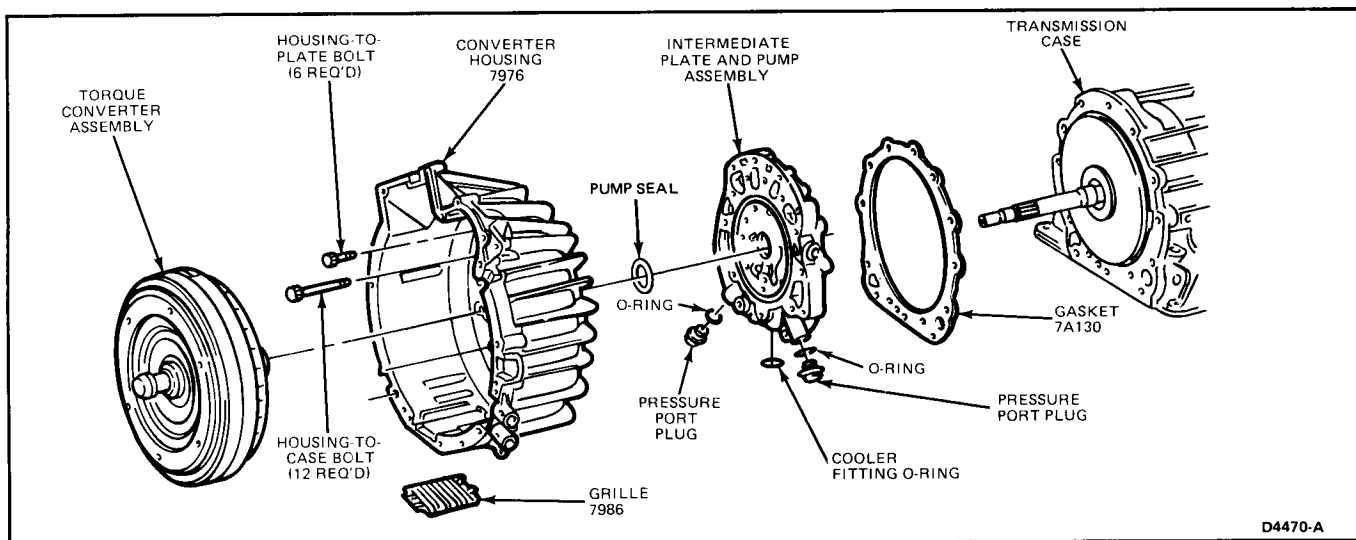

FIG. 20 Converter Housing, Intermediate Plate Gasket and Pump Seal—Removal
2. Remove converter assembly from housing using handles, T81P-7902-C, or equivalent (Fig. 20).
- Remove six short bolts farthest from pump shaft and remove converter housing from intermediate plate assembly (Fig. 20).
- Position intermediate plate to converter housing and install with six bolts. Tighten bolts to 46 N·m (34 lb-ft) (Fig. 20).
- Install converter housing and intermediate plate assembly onto pump shaft. Make sure thrust washers and thrust bearings are properly positioned as shown in Fig. 20. Use petroleum jelly to hold in place while plate is assembled. Install 12 bolts and tighten to 46 N·m (34 lb-ft).